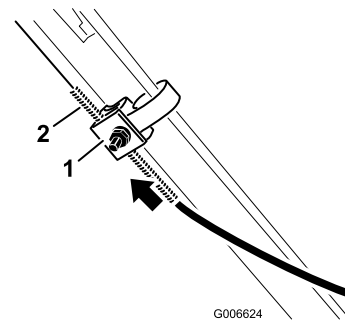

Figure 29
4. Push the cable jacket upward 3/16 inch (5 mm) (Figure 29).